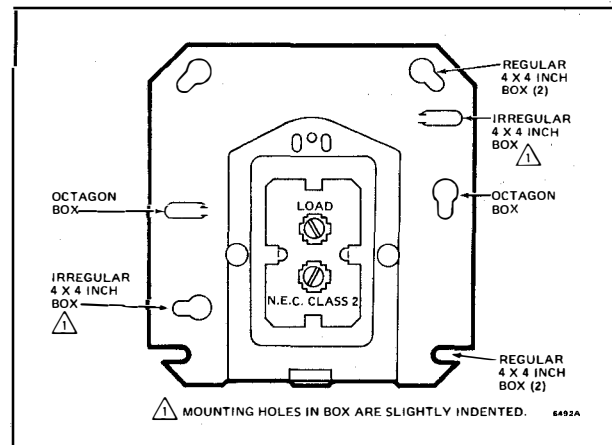

**FIG. 21—SECURE PLATE TO TRANSFORMER WITH MOUNTING SCREW.**
5. Insert mounting screw through holes as illustrated in Fig. 21. Secure plate to transformer. Do not over-tighten screw.